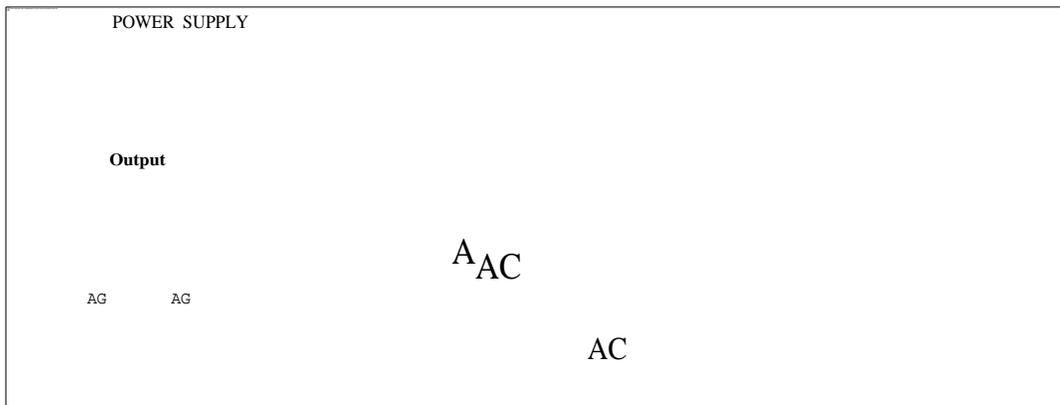

FIGURE 8.9
Step 26: Using your EMS Split-Phase/Capacitor Start Motor, Power Supply and the Data Acquisition Interface (DAI) modules in the EMS workstation connect the circuit shown in Figure 8.9.